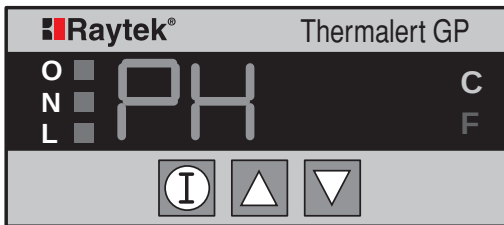

Figure 15: Peak Hold Display
1. Press and hold the  button and press the  button and release them both. The Peak Hold display appears (Figure 15).
1. Press and hold the ▼ button, and press the ⓘ button, then release them both. The Peak Hold display appears (as shown in Figure 15).
1. Press the  button and the  button simultaneously then release. The Peak Hold display appears (as shown in Figure 15).
1. Press and hold the  button, and press the  button, then release them both. The Peak Hold display appears (as shown in Figure 15).